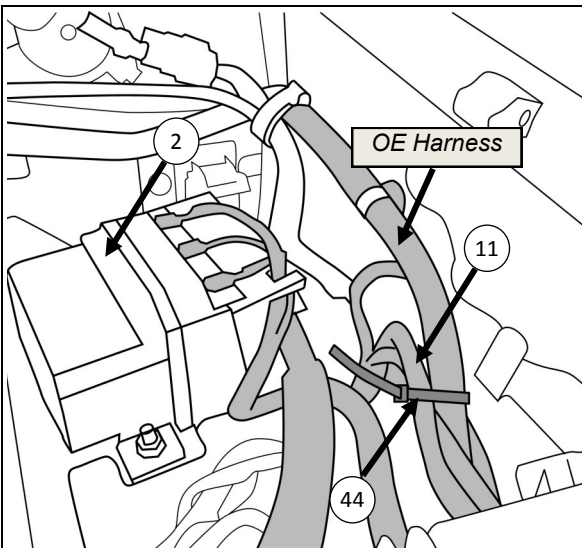

Figure 26: Route Winch Controller Harness
- Route the Winch Controller Harness (Item 11) near the OE harness on the LH apron and secure with 1X Cable Tie 200mm (Item 44) in position shown in Figure 26.